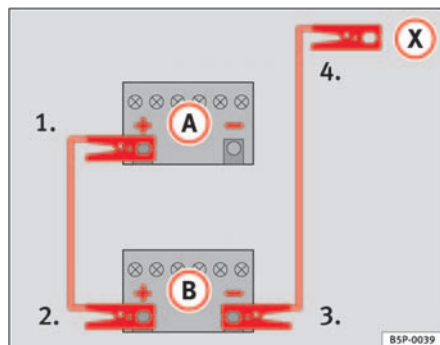

Fig. 180 How to connect the jump leads
In ⇒ fig. 180, the flat battery is (A) and the charged battery (B).
1. Connect one end of the red jump lead to the positive ⇒ fig. 180 (+) terminal of the vehicle with the flat battery ⇒ ⚠.
4. Connect the other end of the black jump lead (X) to a solid metal component which is bolted on to the engine block, or onto the engine block itself of the vehicle with the flat battery. Do not connect it to a point near the battery ⇒ ⚠.